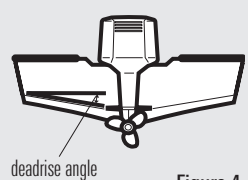

Figure 4
- **Deadrise:** The hydrodynamic shape of your transducer allows it to point straight down without deadrise adjustment (Figure 4).